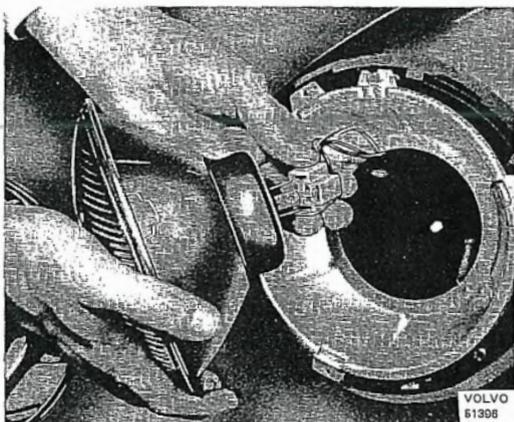

Fig. 3-84. Removing connection contact
3. Disconnect the connection contact from the bulb socket and pull it straight out as shown in Fig. 3-84.